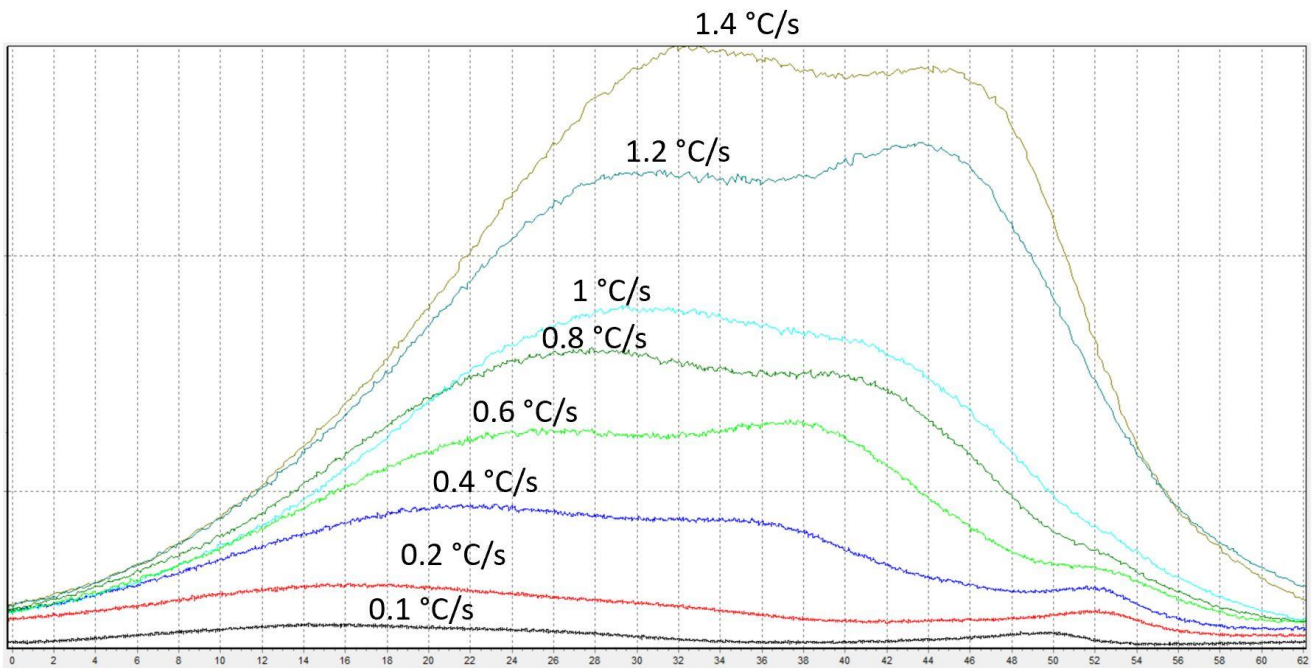

Fig. 31 Effect of heating rate on thermoluminescence signal.
- *Heating rate for thermoluminescence (°C/s)* – the heating rate can be set from 0.1 to 1.5 °C/s; heating rate affects the thermoluminescence intensity (Fig. 31)
- *Heating rate for thermoluminescence (°C/s)* – the heating rate can be set from 0.1 to 1.8 °C/s; heating rate affects the thermoluminescence intensity (Fig. 31)